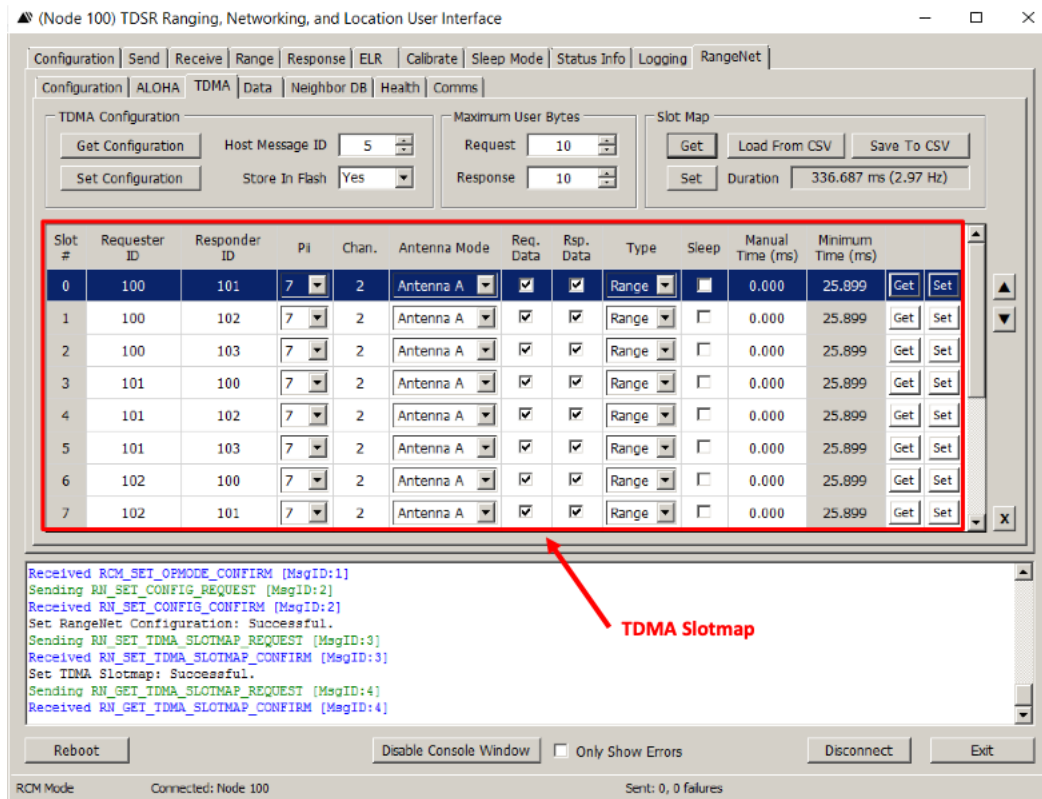

Fig. 2-5: Representative RangeNet slot map
- If the TDMA protocol is used, then the user can define a slot map that provides each radio with an indication of when and to whom and with what parameters it should communicate. An example slot map is shown below in **Figure 2-5**. The slot map shown is for a system of 4 nodes (100, 101, 102, and 103) in which 100 and 101 range to each of the other three and 102 ranges to 100 and 101.